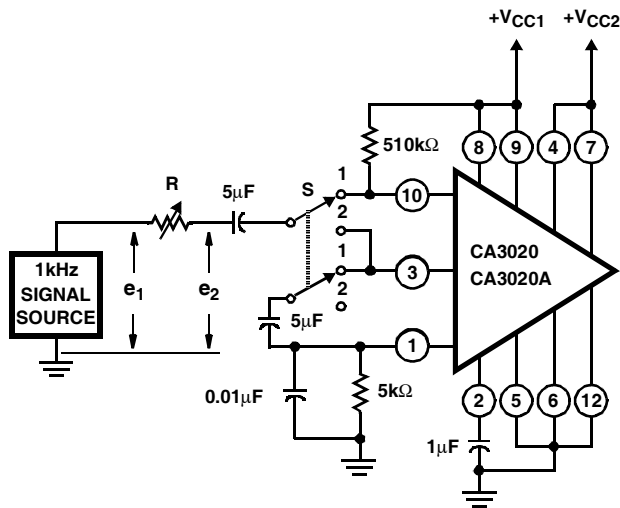

FIGURE 10. MEASUREMENT OF INPUT RESISTANCE
4. See Figure 10 for definition of  $R_{IN(10)}$ .